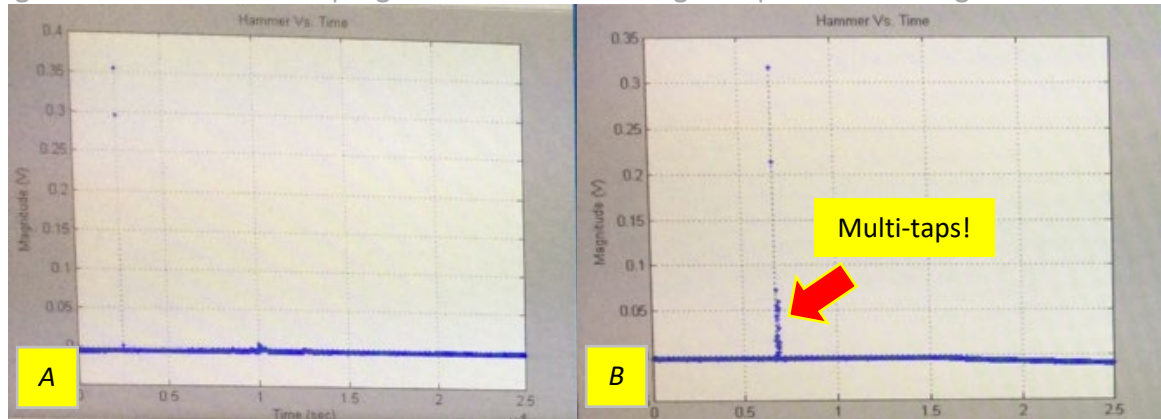

Fig. 12. Examples of plotted results of (A) a single-tap and (B) a multiple-taps
8. Figure 12 shows examples of results of single-tap and multiple-taps.